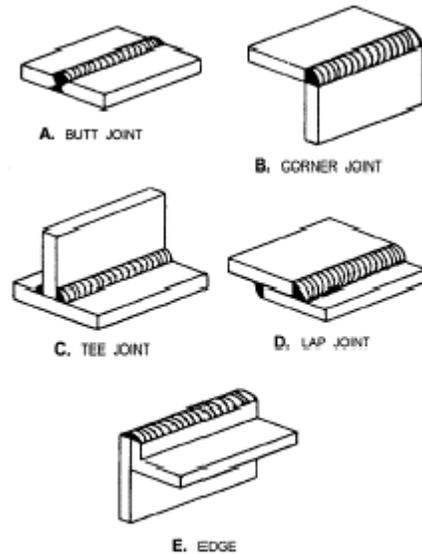

Figure 3-6. Basic weld joints.
The *weld joint* is where two or more metal parts are joined by welding. The five basic types of weld joints are the butt, corner, tee, lap, and edge, as shown in figure 3-6.
A **butt** joint is used to join two members aligned in the same plane (fig. 3-6, view A). This joint is frequently used in plate, sheet metal, and pipe work. A joint of this type may be either square or grooved. Some of the variations of this joint are discussed later in this lesson.
**Corner** and **tee** joints are used to join two members located at right angles to each other (fig. 3-6, views B and C). In cross section, the corner joint forms an L-shape, and the tee joint has the shape of the letter *T*. Various joint designs of both types have uses in many types of metal structures.
A **lap** joint, as the name implies, is made by lapping one piece of metal over another (fig. 3-6, view D). This is one of the strongest types of joints available; however, for maximum joint efficiency, you should overlap the metals a minimum of three times the thickness of the thinnest member you are joining. Lap joints are commonly used with torch brazing and spot welding applications.
An **edge** joint is used to join the edges of two or more members lying in the same plane. In most cases, one of the members is flanged, as shown in figure 3-6, view E. While this type of joint has some applications in platework, it is more frequently used in sheet metal work. An edge joint should only be used for joining metals 1/4 inch or less in thickness that are not subjected to heavy loads.